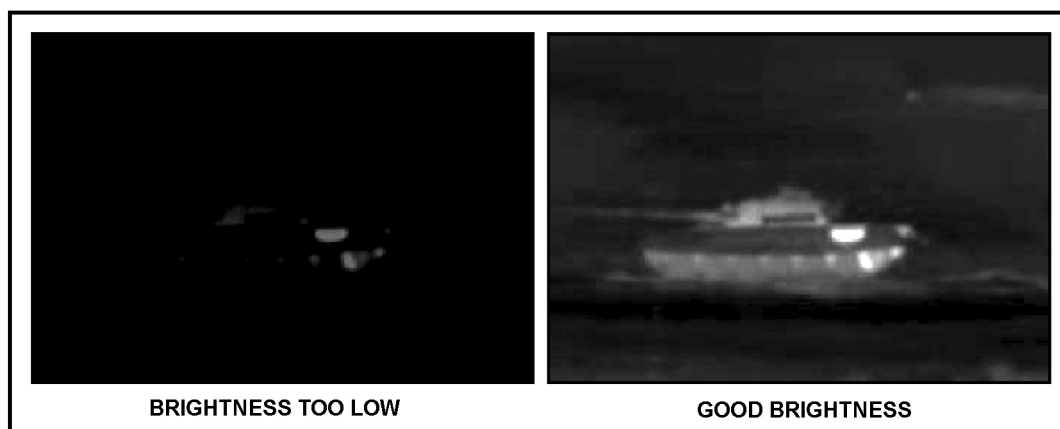

Figure C-22. Low versus good contrast adjustments.
- When brightness is too low (Figure C-22), most objects appear black, a few appear as shades of green, and none appear bright green. The gunner increases the contrast by selecting BRT on the BCF menu and pressing the BCF switch up. This increase drives up the intensity of all objects until some areas appear bright green.